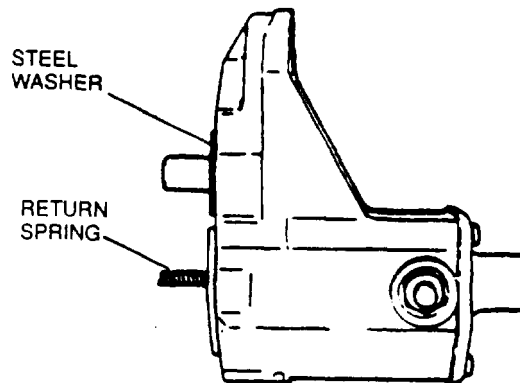

FIGURE 3-25. Removing Washer and Spring
- k. Remove washer (22, FIGURE 3-15) and spring (23) from magnetic switch assembly (24), refer FIGURE 3-25.